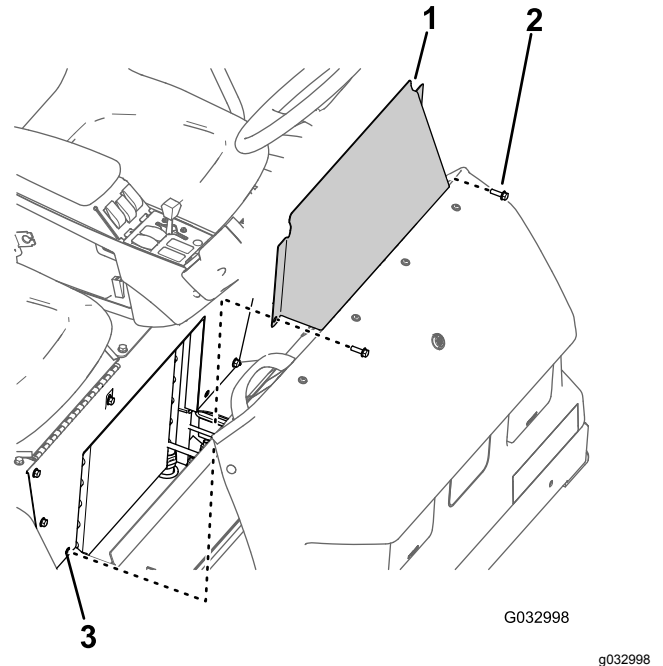

Figure 60
1. Remove the 2 flanged-head bolts that secure the seat-base-access panel to the seat base (Figure 60).
2. Remove the seat-base-access panel from the machine (Figure 60).
1. Align the holes in the seat-base-access panel with the holes in the seat base (Figure 60).
2. Assemble the seat-base-access panel to the seat base with the 2 flanged-head bolts (Figure 60) that you removed in step 1 of Removing the Seat-Base-Access Panel (page 51).